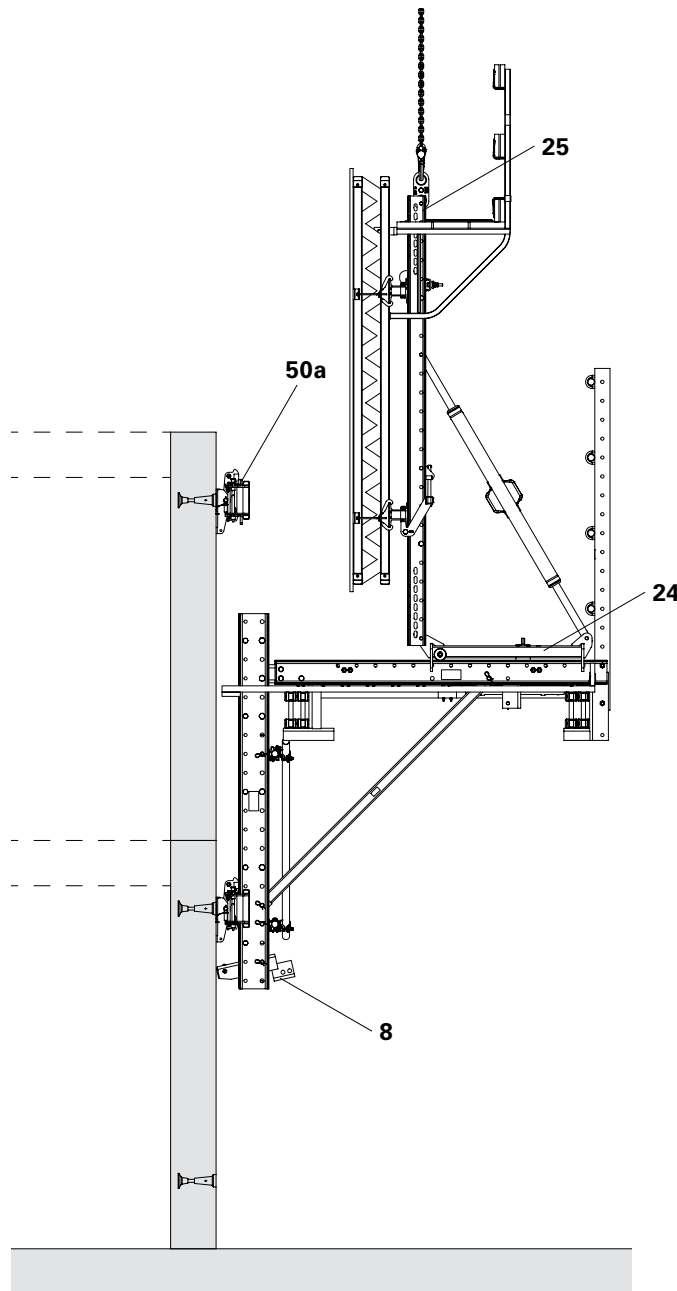

Fig. C3.10
3. Retract Carriage (24).
5. Attach crane lifting gear to top end of the Strongback (25).
- Climbing Rail Hinge (8) swivels around the bottom Climbing Shoe in the pressure position.
- (Fig. C3.10)